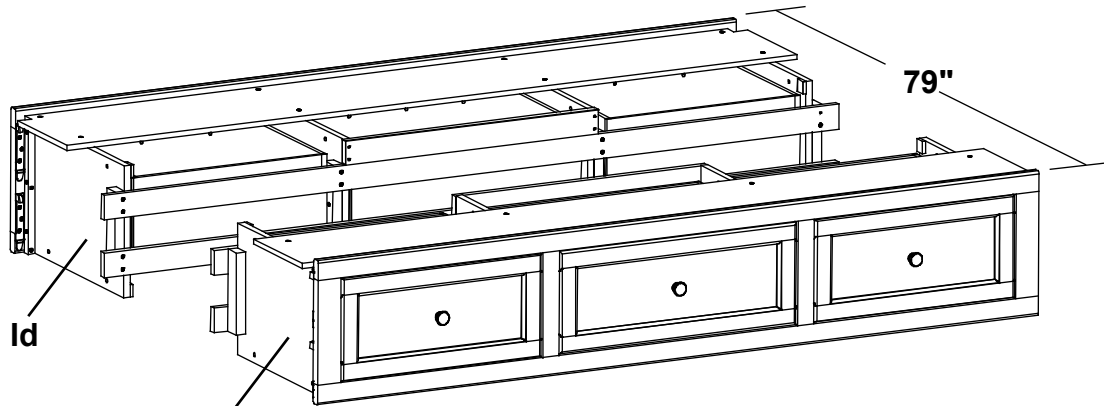

Fig. 4
4. Place both Pedestals (Id) approximately 79" apart as shown in Figure 4.